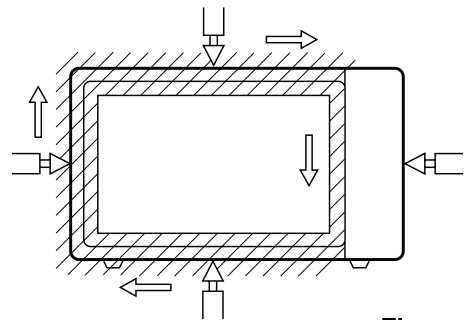

Figure 6
- (1) Pour $275\pm 15\text{cc}$ of $20\pm 5^\circ\text{C}$ water in a beaker which is graduated to 600 cc, and place the beaker in the center of the oven.
- (2) Set the energy leakage monitor to 2450 MHz and use it following the manufacturer's recommended test procedure to assure correct result.
- (3) When measuring the leakage, always use the 2 inch (5cm) spacer supplied with the probe.
- (4) Operate the oven at its maximum output.
- (5) Measure the microwave radiation using and electromagnetic radiation monitor by holding the probe perpendicular to the surface being measured. (See Figure 6)